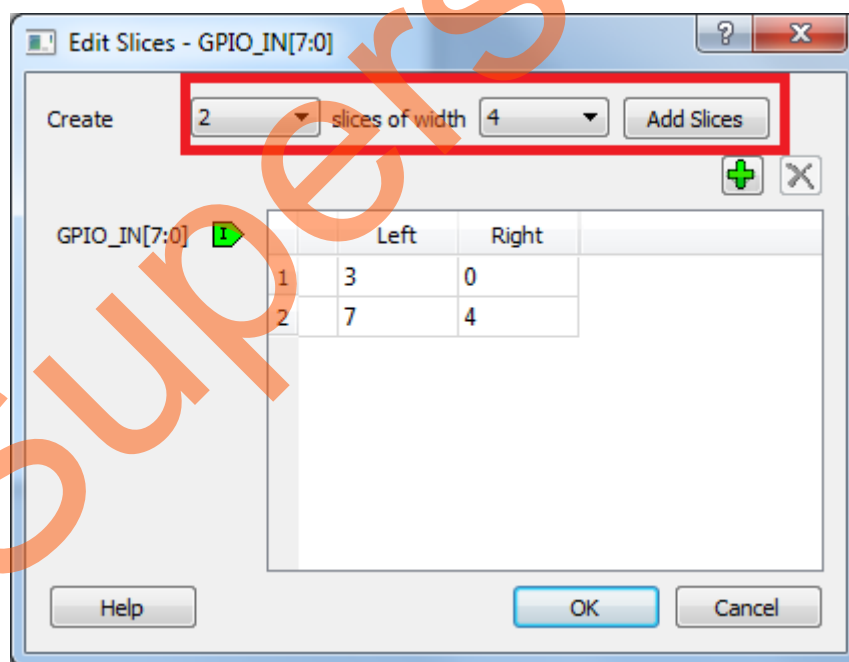

Figure 29 • Edit Slices
23. Select 2 slices of width 4, click **Add Slices**, and edit the window as shown in Figure 29.